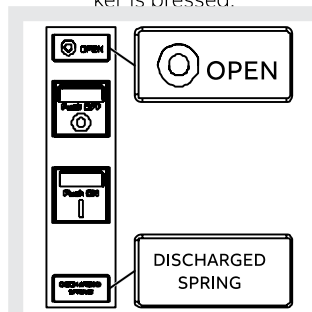

Figure 65
1. Circuit-breaker open with springs discharged (see Figure 65).